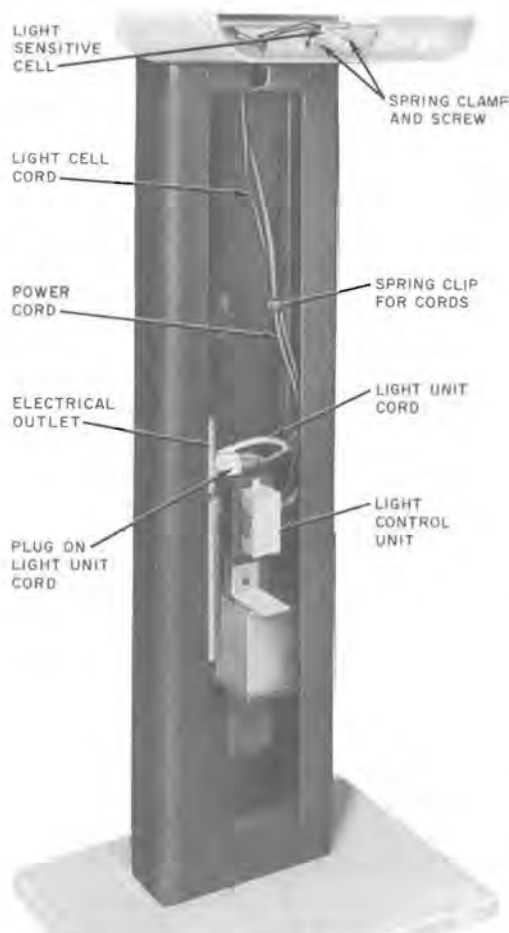
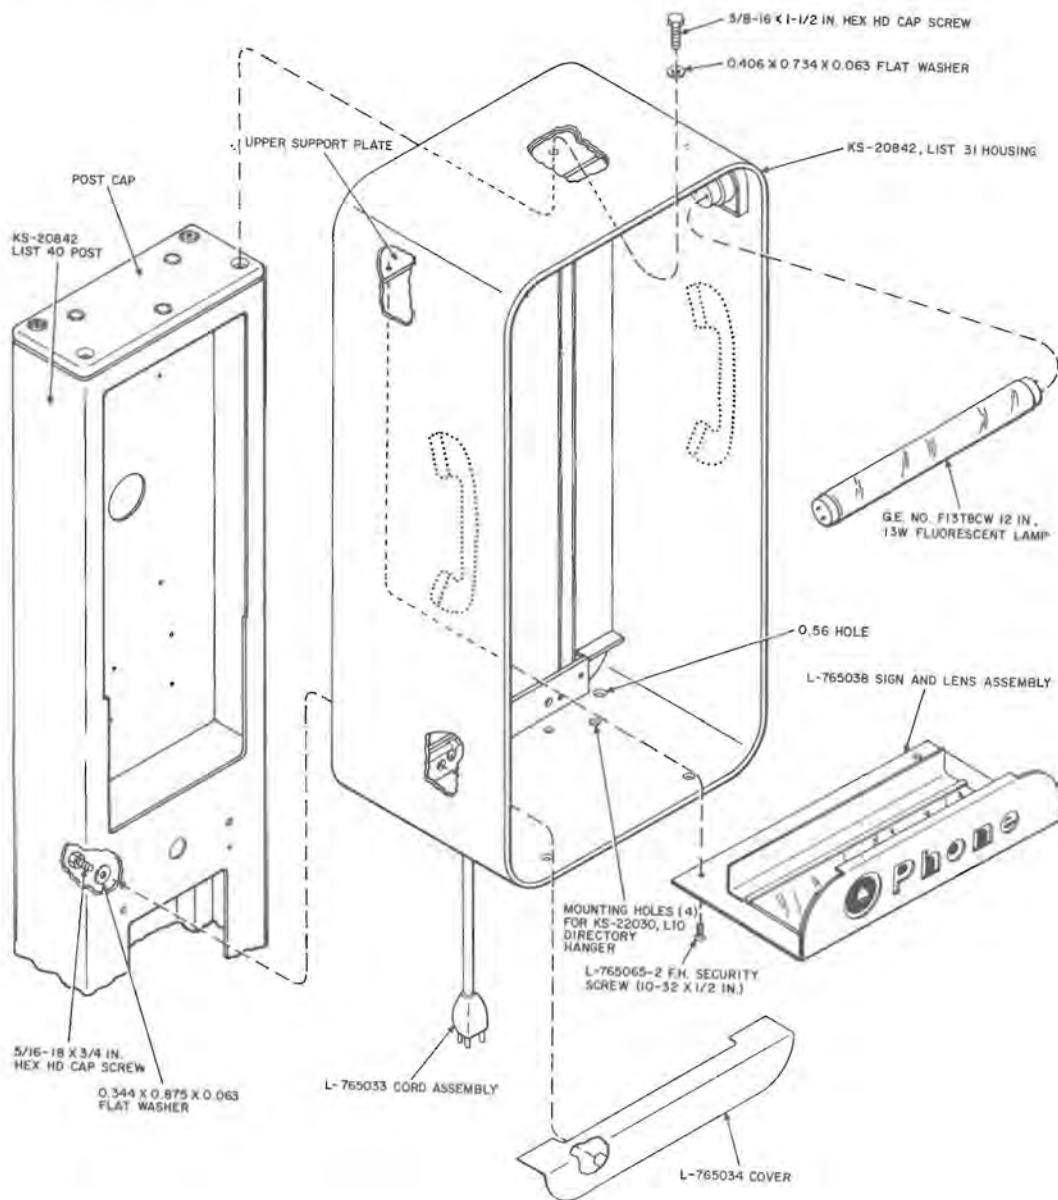

Fig. 8—Installation of KS-19261, List 4 Light Control Unit
Fig. 11—Installing List 31 Housing on Post
- (2) Install the light control unit on the mounting bracket inside the post assembly and secure using the two 6-32 by 1/4 Phillips pan head screws (Fig. 8).
- (3) Insert the light sensitive cell, from inside the post, through the keyhole in the lower part of the housing.
- (4) Using the two clamps and two 8-32 by 1/4 Phillips pan head screws, secure the light cell to the housing as shown in Fig. 8. Position the end of the cell so that it will just touch the edge of the 0.56 hole (Fig. 11) in the bottom of the housing.
- (5) Remove the power cord from the electrical outlet.
- (6) Plug the light unit cord into the electrical outlet.
- (7) Insert the power cord into the rear of the light unit plug.
- (8) Press both the power cord and the light cell cord into the spring clip inside the post.
- (9) Install the L-765034 cover in the lower part of the housing using the two 5/16-18 by 3/4 hex head cap screws and two 0.344 by 0.875 by 0.063 flatwashers removed in (1). Reach in through opening on post and insert the screws through the post, through the housing, and into the rear of the cover (Fig. 11).
3.16 When the KS-20842, List 31 housing is used, install a KS-20030, List 10 directory hanger to the bottom of the housing using the four L-765065-2 flat head security screws (No. 10-32 by 1/2) and four No. 10 nylon-insert nuts supplied with the hanger and the KS-19192, List 1 wrench. See mounting holes on Fig. 11.